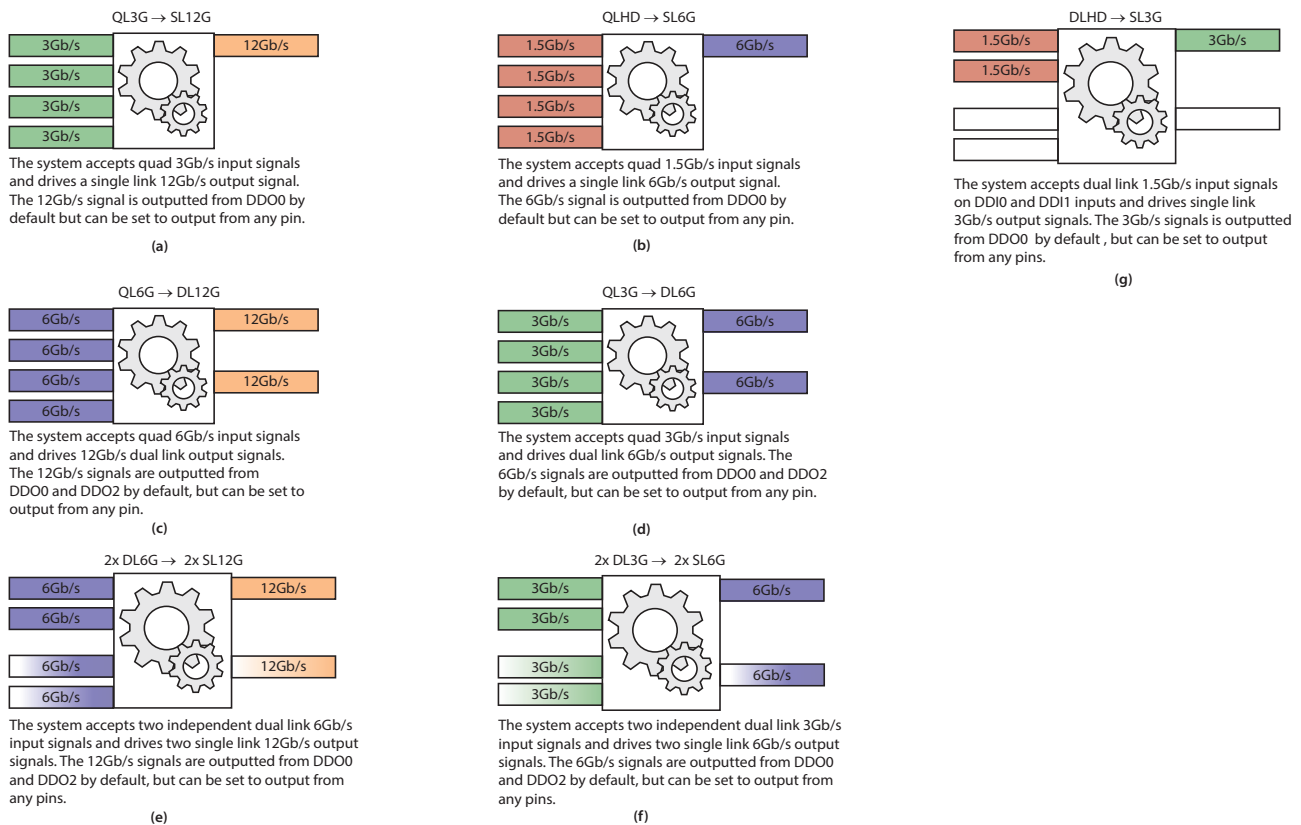

Figure 3-7: Multiplex Conversion Modes
1. Tx2(M1 path) is powered down by default. To use Tx2(M1 path) as a secondary link it must be enabled manually via SEC_LINK_ENABLE pin or through the CSR. See Figure 3-7 and Section 3.10.2 for further details.
In MUX mode, conversion modes are illustrated in Figure 3-7.
- In Figure 3-7 e) and f), solid coloured inputs use path M0 and gradient coloured inputs use path M1. See Section 3.10.2 for further details.